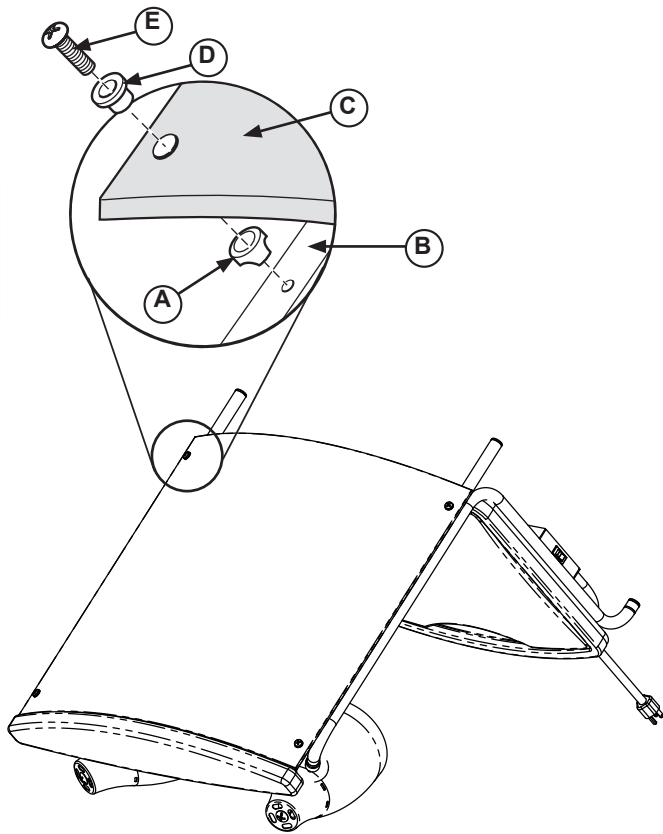

Figure 1. Install Breath Guard.
1. Position the Contoured Carving Station frame on the flat assembly surface in the orientation shown in Figure 1.
2. Insert special washer (D) into the holes in breath guard glass (C).
3. Position spacer (A) on frame tubing (B) in front of the hole. Slide the screw (E) through the special washer (D), breath guard glass (C) spacer (A) and into the hole on the frame tubing (B). Turn the screw (E) several turns. Do not tighten at this time.
4. Repeat step 3 for all four locations. After breath guard and hardware is in place tighten all screws (E) snugly.